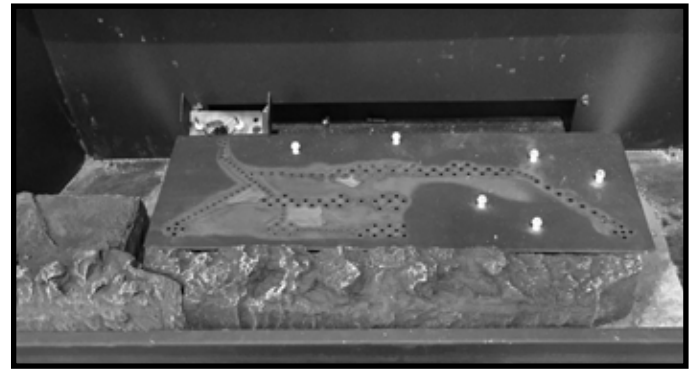
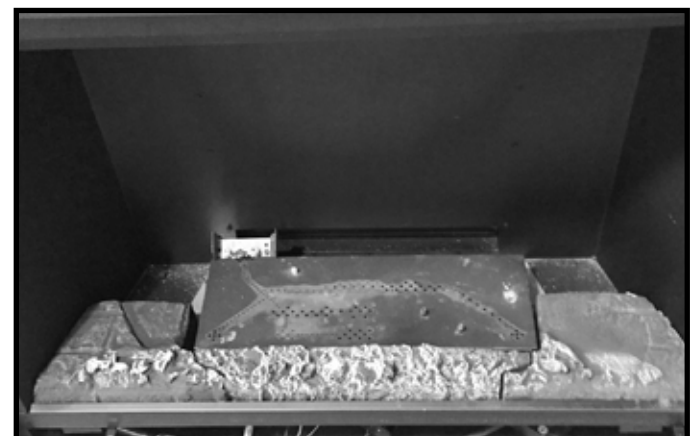

Figure 11.3 Install Center Hearth Component
Figure 11.5 Hearth Components Installed
2. Locate the center hearth component shown in Figure 11.3 and install it adjacent to the left hearth component as shown in Figure 11.5.